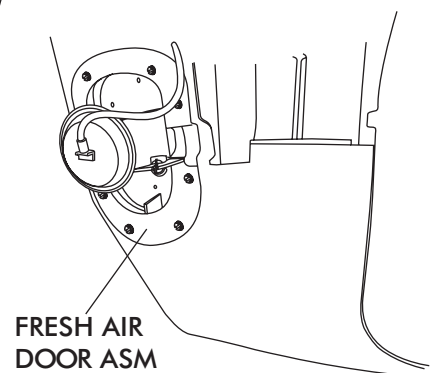

FIGURE 2a
- ☐ PASSENGER SIDE KICK PANEL/FRESH AIR DOOR ASSEMBLY AS SHOWN IN FIGURE 2a.